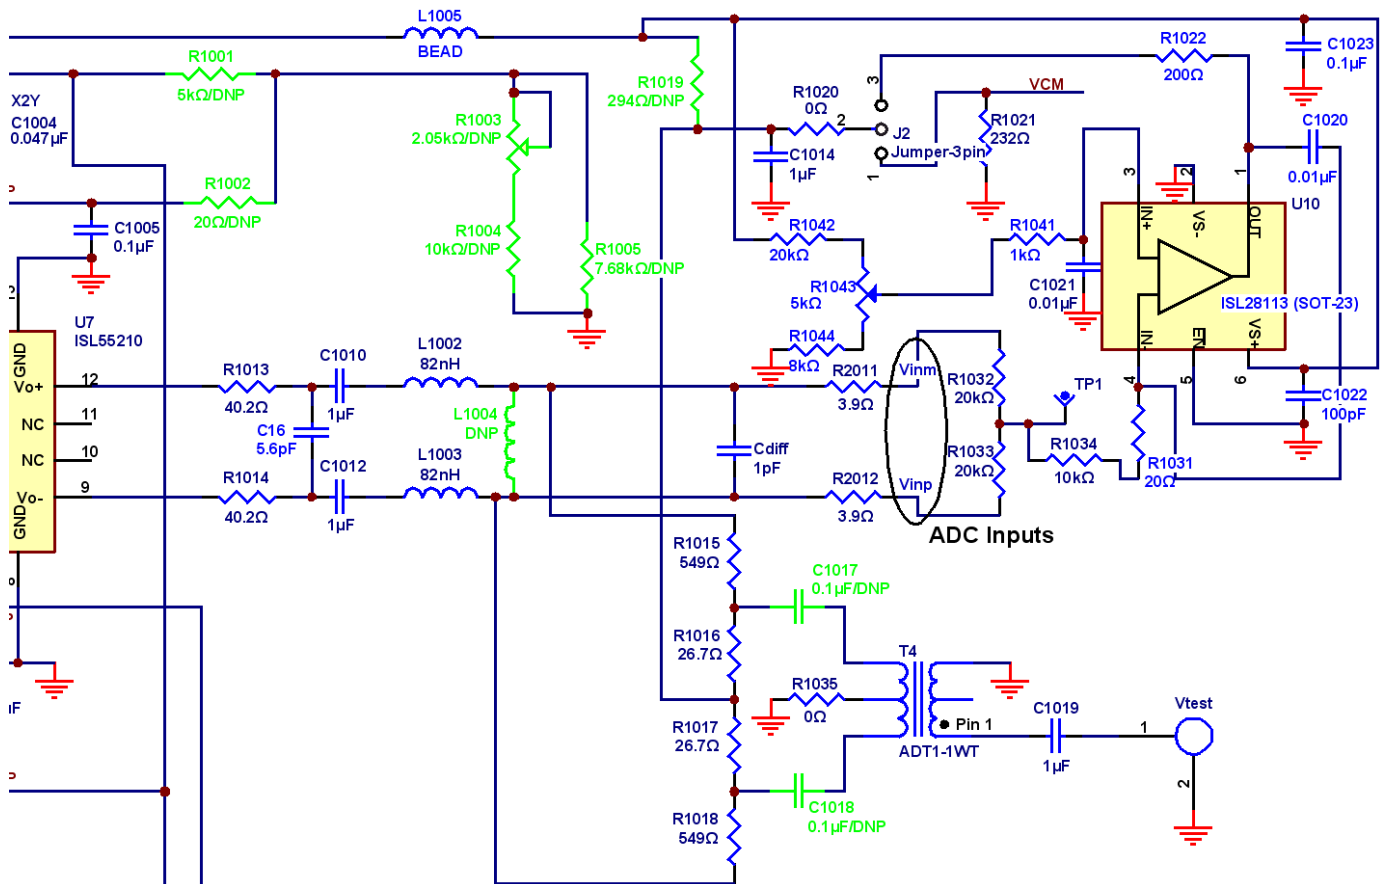
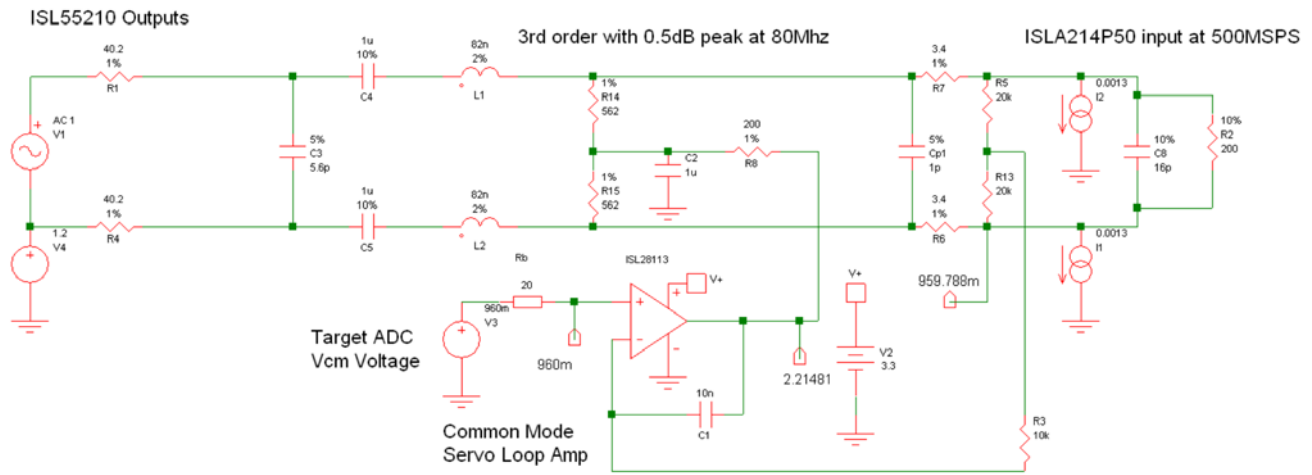
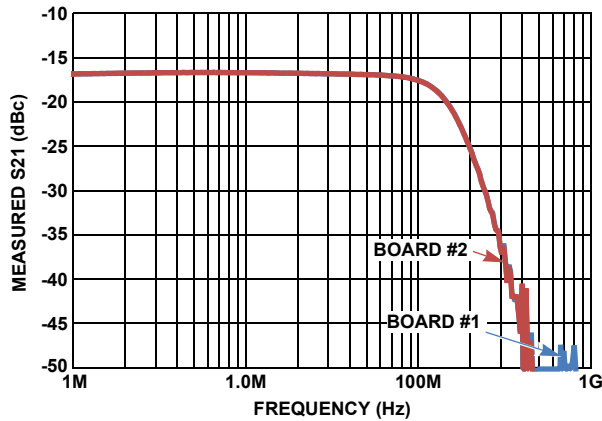

FIGURE 8. OUTPUT INTERFACE FROM ISL55210 TO THE ISLA214P50 DIFFERENTIAL INPUTS
FIGURE 9. SIMULATION CIRCUIT FOR THE INTERSTAGE FILTER AND V_{CM} SERVO LOOP
FIGURE 11. OVERALL FREQUENCY RESPONSE SHAPE FROM THE BOARD INPUT TO THE ADC
The signal path from the ISL55210 to the ADC is AC coupled, allowing the amplifier and ADC to operate at the common-mode voltage that optimize each device's performance. As delivered, the differential output of the ISL55210 operate with a common mode voltage that is left to default to the internal 1.2V value. This can be adjusted to different set point via an optional path. The interstage passive circuit provides an AC coupled, 3rd order low pass filter. Built into this filter are an ADC common mode voltage servo loop which controls the common-mode DC voltage delivered to the ADC input pins and a wideband passive sense path going differential to single ended to directly measure the response shape to the ADC inputs. The circuit as delivered is shown in Figure 8.
The differential signal at the outputs of the ISL55210 proceeds from left to right in Figure 8 through the 40.2Ω resistors to a differential 5.6pF capacitor and then into the 1μF DC blocking capacitors. Those level shift the DC operating voltage from the FDA outputs to the required common mode voltage at the ADC inputs. The rest of the passive filter from there is pair of series 82nH inductors then into a parallel RC network comprised of the 4 resistor network feeding the differential to single ended sense path at the output of T4, an external 1pF differential capacitor and then the internal RC elements of the ADC. A final circuit element senses the average common mode voltage at the ADC inputs using the 2-20kΩ resistors and feeds that into a low frequency servo loop amplifier using the ISL28113 which then feeds a DC control voltage to the center of the 4-resistor string that acts to control the ADC common mode operating voltage to the reference voltage applied at the ISL28113 V_+ input.
Critical to understanding the response shape are the estimated internal ADC elements as shown in the simulation circuit for this interface in Figure 9 (this element numbering here does not follow the build schematic of Figure 8)
This slight peaking is intended to equalize some of the rolloff up to the FDA outputs but then bandlimit quickly above 100MHz. The V_{TEST} of Figure 8 provides an easy means to verify the frequency response shape from the board input to the ADC. The 4 resistor network feeding T4 in Figure 8 shows a about a 25Ω source to each leg of the 1:1 transformer while its total impedance across the signal path is part of the filter design. This path will have considerable insertion loss ($\approx -31.8dB$) but an accurate replica of the response shape as shown for 2 boards measured in Figure 11.
Clearly the overall response shape is doing a good job of providing approximately 15dB gain from board edge with <math>< -1\text{dB}</math> rolloff to 100MHz. It is important for distortion reasons to stay away from the rolloff regions of the input step up transformer. The intended minimum frequency in this application is 100kHz, well above the 40kHz -1dB measured on the ADT4-6T while the maximum intended frequency is 100MHz which is also well below the measured 180MHz -1dB frequency on the ADT4-6T. The interstage filter bandlimits the broadband noise out of the ISL55210 to reduce SNR degradation through the ADC while also providing a bit of HD2 and HD3 attenuation from the FDA outputs to the ADC inputs. For instance, a single tone 80MHz at the FDA output pins will have an HD2 at 160MHz and an HD3 at 240MHz. The response shape of Figure 11 suggests that HD2 term will get about 4dB attenuation while the HD3 term will get 13dB attenuation to the ADC inputs.
2. The ADC input resistance will increase slightly. The 200 Ω internal value shown in the simulation circuit of Figure 9 is a combination of an extrinsic 300 Ω element and the effective resistance of a sampling cap. That impedance is approximately $1/(F_s * 3.3pF)$. As the clock rate decreases, this impedance will increase moving the apparent input resistance up. By 200MSPS the total ADC internal resistance is \approx 250 Ω . This shift will slightly change the response shape of the interstage filter.